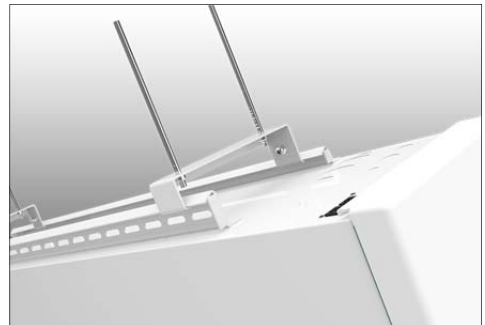

Fig 7
- Step 4** Hook each ceiling bracket into top rear and front hanging system rails as shown in Fig 7.